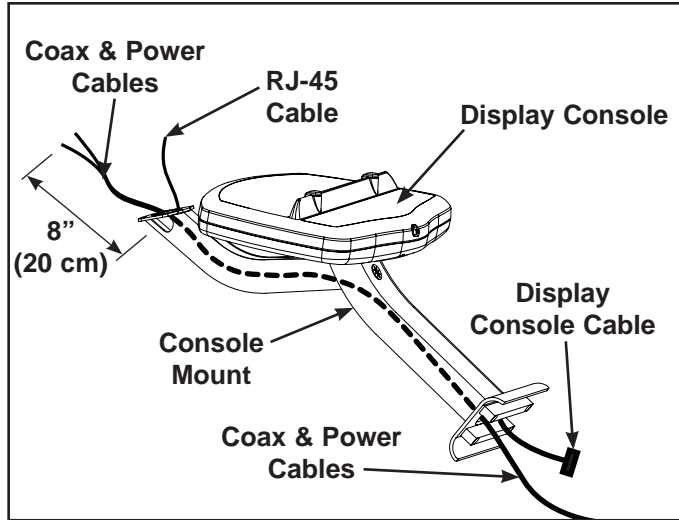

Figure 20
- B. Locate the coax and power cables (B) exiting the top of the Arc frame.
- C. Insert the coax and power cables (B) into the bottom of the console mount until 8" (20 cm) of cable exits the top. See Figure 20.